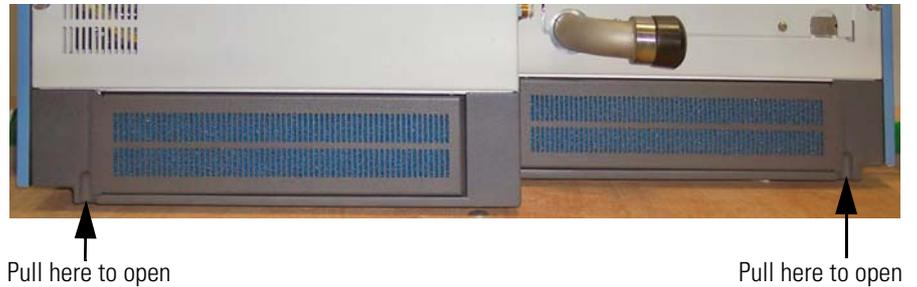
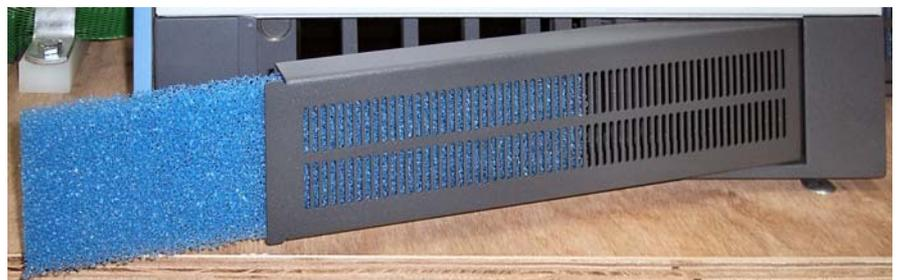

Figure 3-4. Ventilation slots at the rear side of the instrument
Figure 3-5. Removing a fan filter from the filter bracket
Each of the two ventilation slots at the rear side of the Exactive is equipped with a fan filter. See Figure 3-4.
1. Each fan filter bracket is mounted on hinges. Insert a finger into the recess in the instrument frame and pull at the fan filter bracket to open it. See Figure 3-4 and Figure 3-5.
2. Remove each fan filter from the rear of the Exactive by pulling it out of the filter bracket. See Figure 3-5.